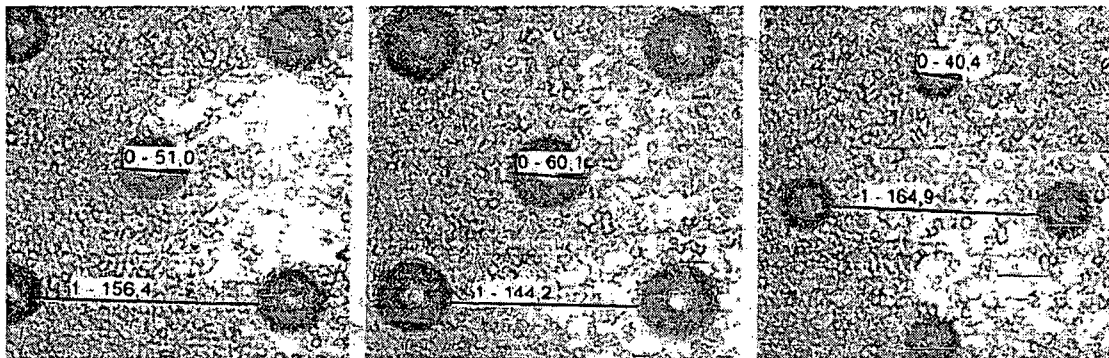

Figure 4
Fig. 4 pictures the applied pattern on the substrate (PE).